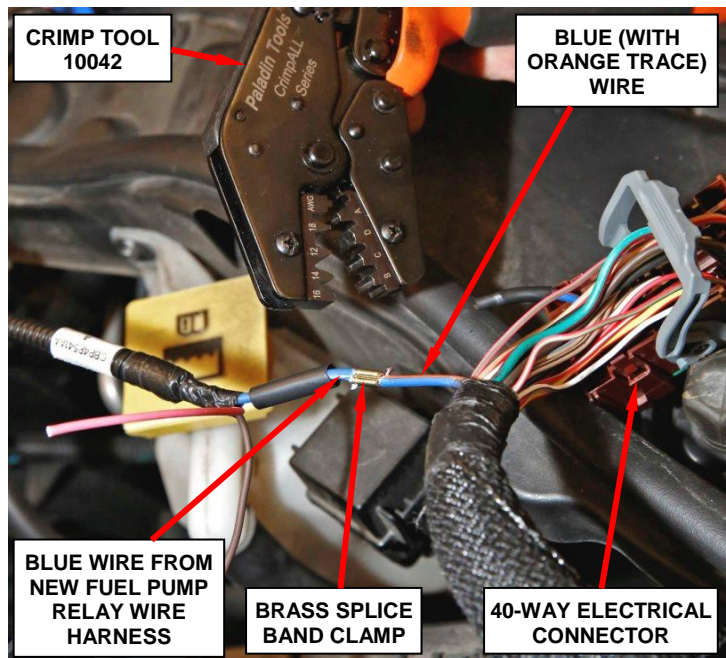

Figure 23 - Crimp and Solder Blue Wire to Blue Wire (with Orange Trace)
- c. Using the supplied brass splice band clamps and crimp tool 10042, crimp the blue wire (with orange trace) on the wire harness side to the blue wire on the fuel pump relay wire harness (Figure 23).
- d. Solder the brass splice band clamp with rosin core solder (Figure 23).